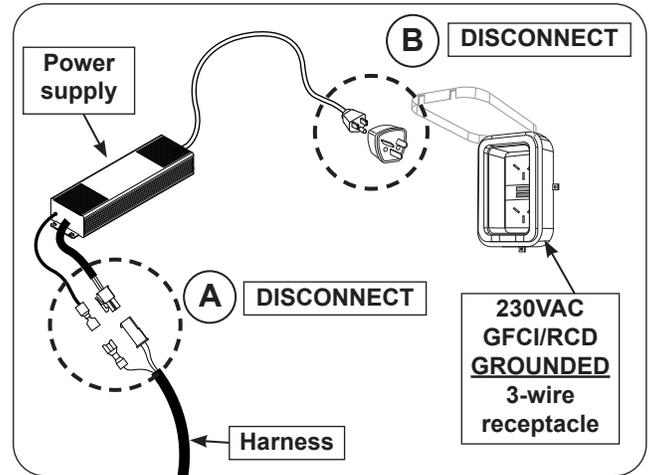

Fig. 35-1 Perform system reset
2. Disconnect the harness from the power supply (see Fig. 35-1, A).
3. Disconnect the power supply from the power source. (see Fig. 35-1, B).